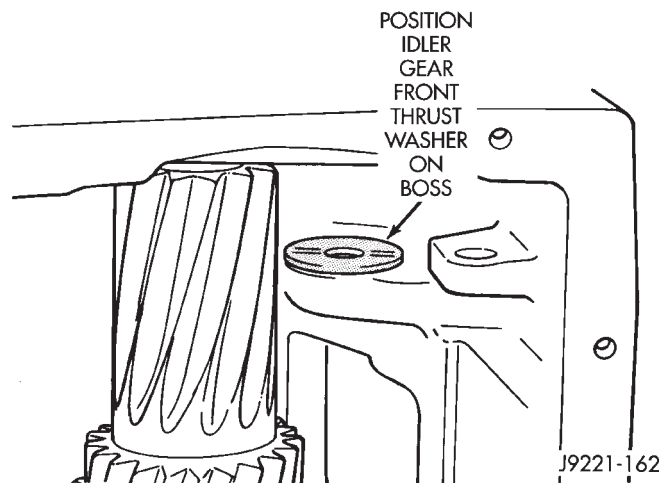

Fig. 81 Positioning Idler Gear Front Thrust Washer In Case
(5) Lubricate reverse idler gear bearings with petroleum jelly and install first bearing and second bearing (Fig. 81).
(6) Install idler gear front thrust washer on boss in gear case (Fig. 81). Coat thrust washer with liberal quantity of petroleum jelly to hold it in place.